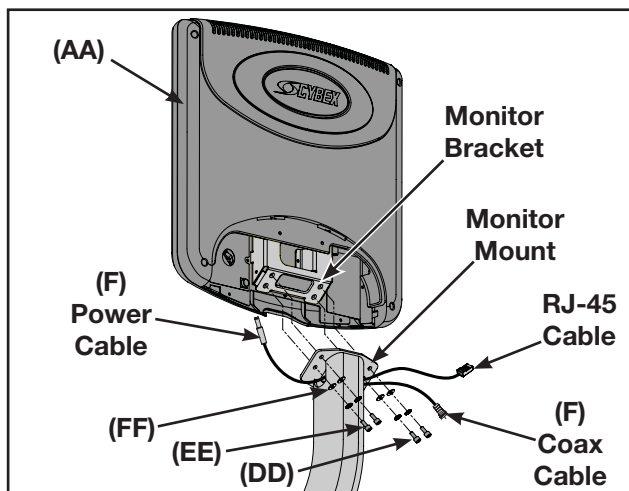

Figure 20
- C.** Insert the power cable end of (F) through hole on left side of monitor mount. See Figure 20.
- D.** Insert RJ-45 cable and the coax end of (F) through hole on right side of monitor mount. See Figure 20.
- E.** Using a 3 mm Allen wrench secure the monitor bracket to the monitor mount using the four mounting screws (DD), four lock washers (EE) and four flat washers (FF). See Figure 20.